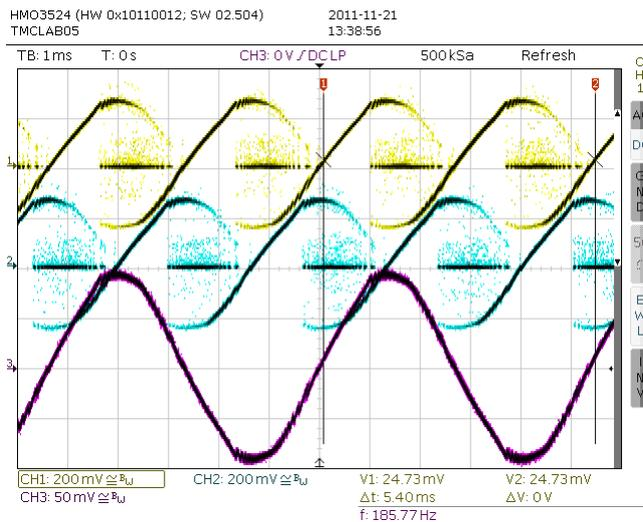
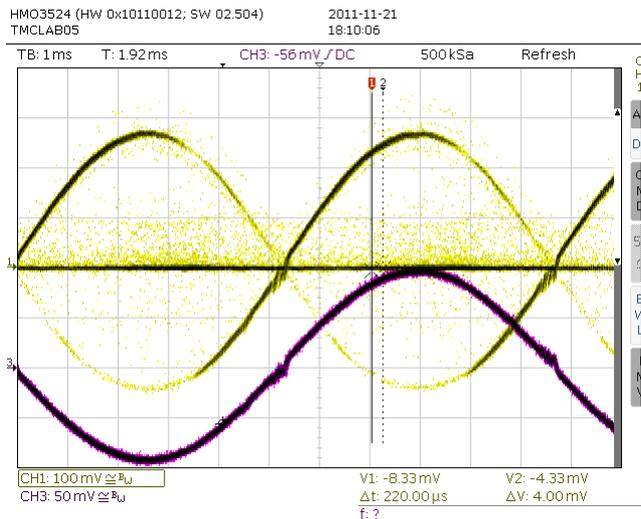

Figure 2.2 Velocity too high – motor current cannot follow
Figure 2.3 Distortion caused by too low blank time setting TBL
You might want to check the current waveform using an oscilloscope. The oscilloscope should show a pure sine wave as shown in Figure 1. In case, the sine wave is distorted like shown in Figure 2.2, the motor velocity is too fast, or the supply voltage is not high enough. A distortion as shown in Figure 2.3 is a hint for a too low blank time setting. Increase *TBL* by one. Other distortions are a hint to a layout problem.
At high velocity, the motor resonance must be kept low, in order to maintain torque as high as possible. Microstep waveforms play a reduced role, as the waveform cannot be maintained in this velocity range anymore (see Figure 2.2), getting worse with each increase in velocity. Fullstepping sometimes brings a few percent increased motor torque. For high velocity behavior, it is more important to operate the motor with its application specific load or in its application environment, but you can do first tests by braking the motor with your fingers, in order to assess its torque before it stalls.
4. Figure out a velocity threshold *VHIGH* for switching to fullstepping. The threshold can be determined using an oscilloscope and finding the velocity, above which the microstep sine wave cannot be maintained, as shown in Figure 2.2, or, by assessing motor noise and vibration.